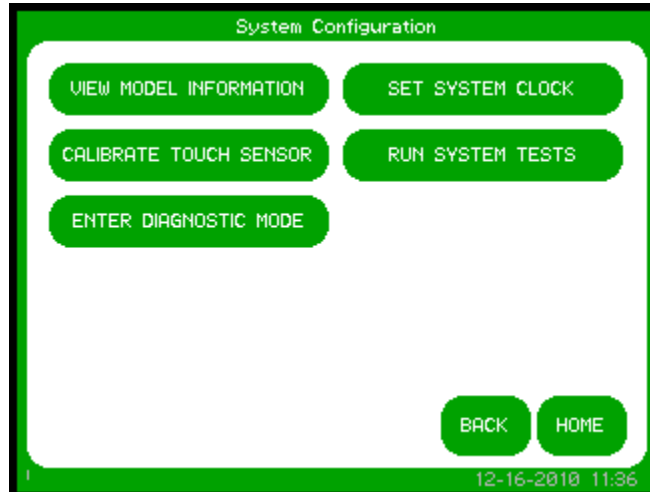

Figure 2 - System Configuration
Step 2: Begin calibration by pressing "CALIBRATE TOUCH SENSOR" (See Figure 2).